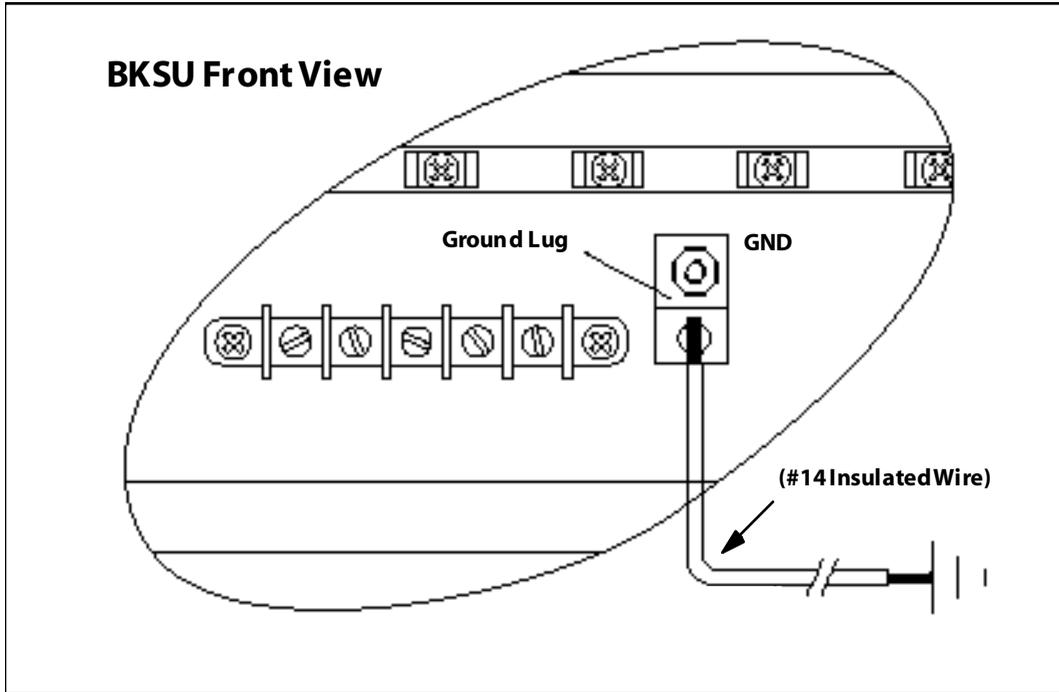

Figure 3-5: KSU Grounding
2. Attach one end of the wire to the Ground Lug in the middle of the Basic KSU by inserting the wire under the lug screw and tighten the screw securely. Refer to Figure 3-5. Attach the other end of the wire as appropriate to the ground source.